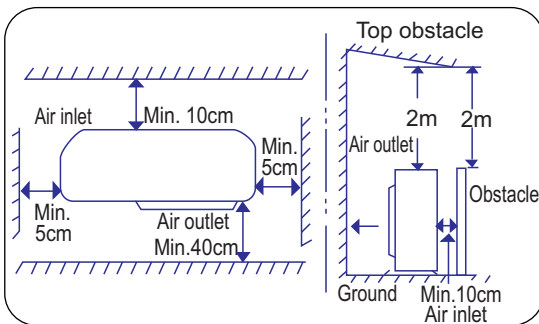

Fig. 7.1
- Have desired space for air inlet, outlet and maintenance. (Figure 7.1)